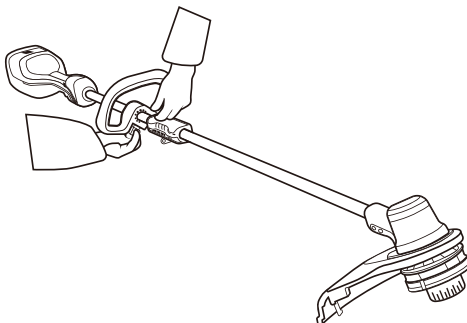

Fig. 5
- Insert the bolt through the screw hole as shown, install and tighten the hand screw nut to secure it.(Fig. 5)